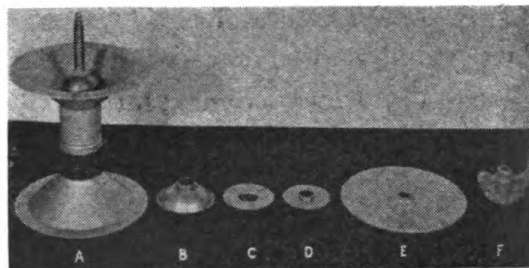

Figure 87
The Model 6685 packs the proper amount of lubricant into the races and cages of roller and ball type wheel bearings. It will handle bearings up to 4" outside diameter and 1 3/4" bore. Various adapter plates are provided for use with different types and sizes of bearings (See Figure 87).
- (1) Set base plate for ball bearings (See "B" Figure 87) on lubricator.
(2) Set ball bearing on base plate, small end of bearing down.
(3) Place cover plate ("C" Figure 87) over ball bearing, so that the ribs rest on edge of bearing.
(1) Set base plate ("D" Figure 87) over the lubricator, flange up.
(1) Connect gun to lubricator. Operate until lubricant comes out at the top when lubricating roller bearings. Operate gun until lubricant comes out through the holes in cover plate ("C" Figure 87) when lubricating ball bearings.
(2) Remove bearing from lubricator and reassemble to wheel. Adjust carefully.
IMPORTANT: When lubricator is not in use keep cover ("E" Figure 87) in place to prevent contamination.